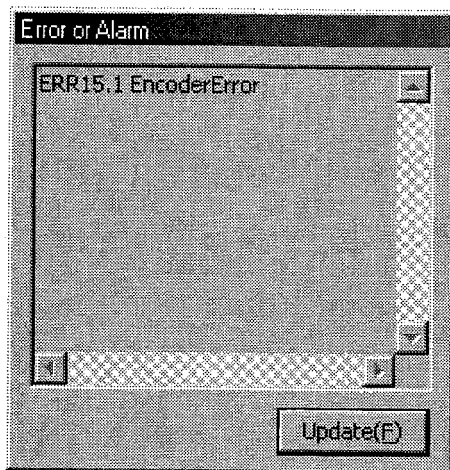

Figure 7.41 "Error or Alarm" dialog box
- 1) If an error occurs, "Error" is displayed in the error display text field. Click "*Error or Alarm (L)*" to display the "Error or Alarm" dialog box (see Figure 7.41). To reset an error status, click "*ErrReset (R)*."